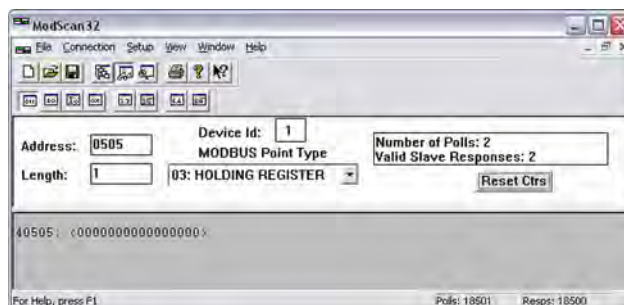

Fig. 217: ModScan32 single bit view
1. Using the "display options" set the format to binary to view single bits (Fig. 217).